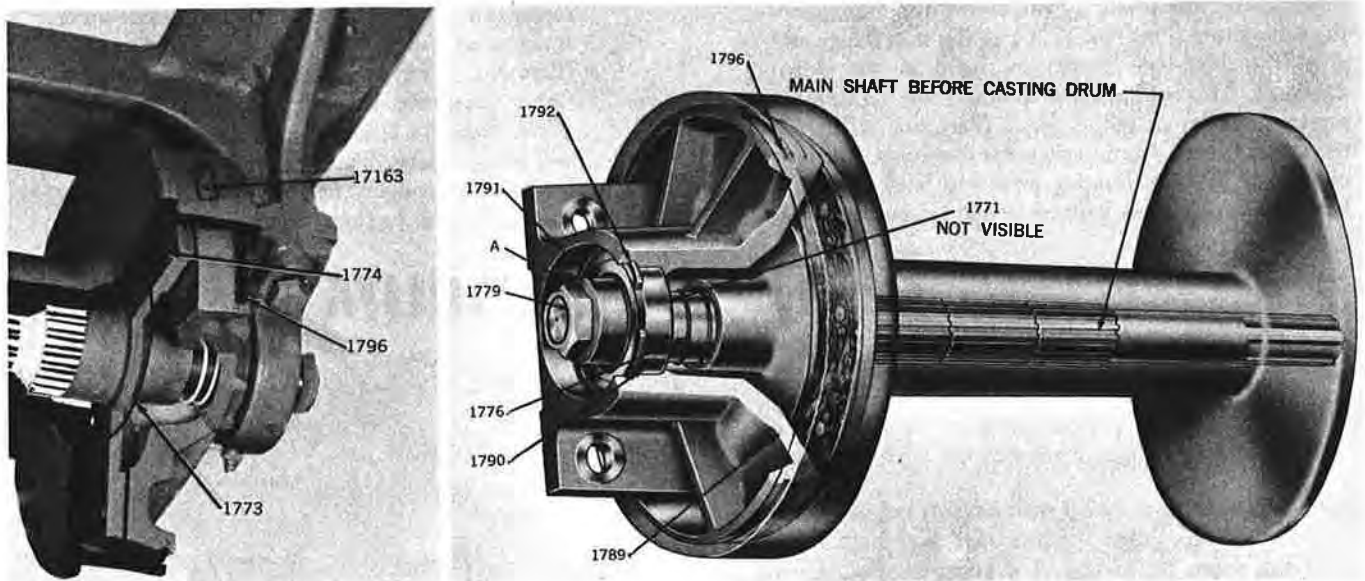
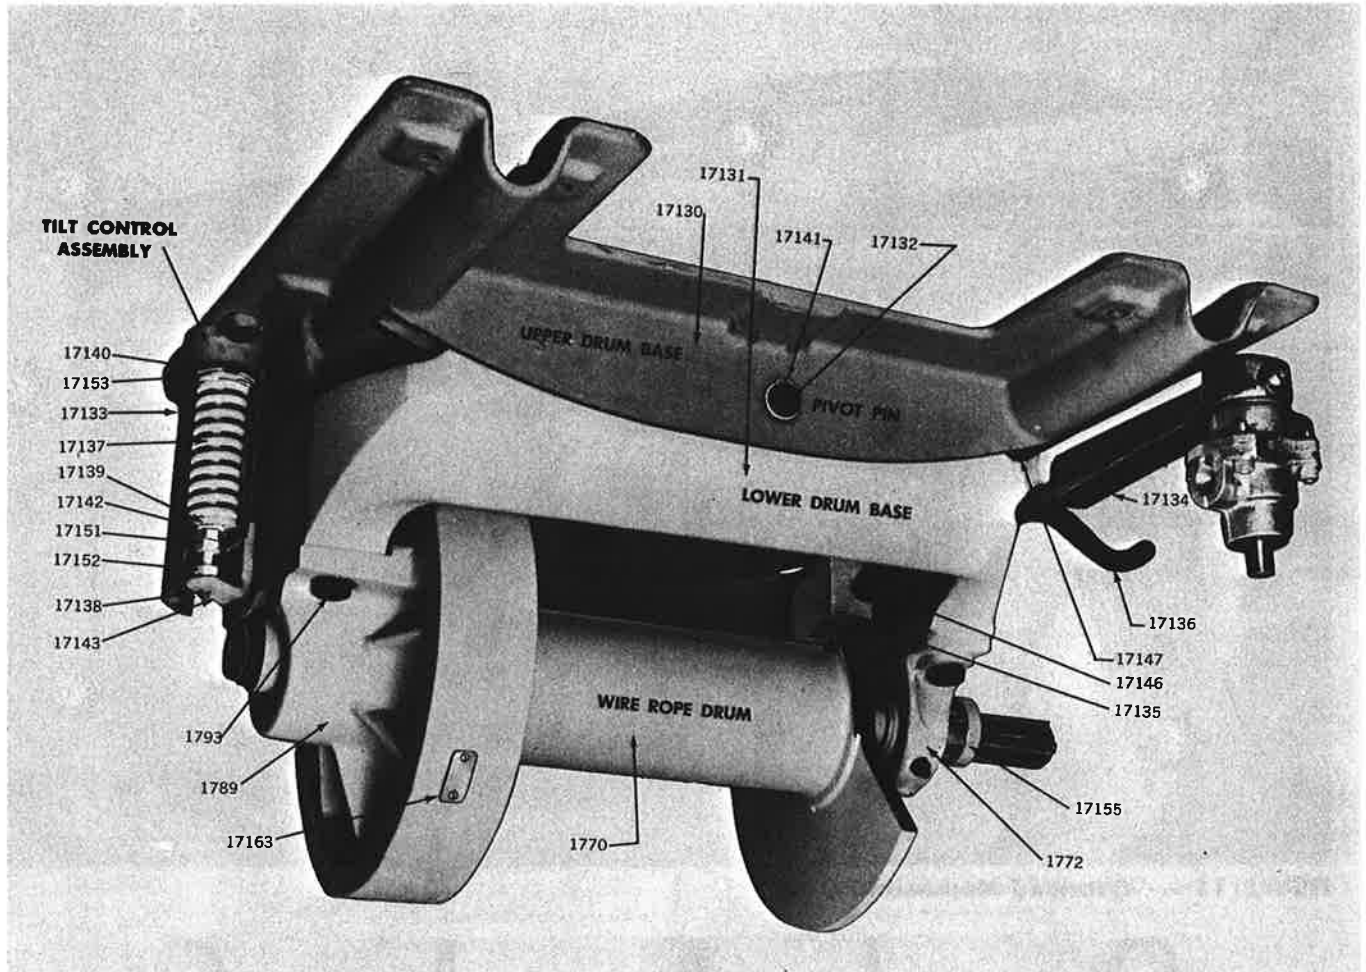

FIGURE 9 — Automatic Emergency Brake
FIGURE 10 — Level Wind Drum and Drum Base Assembly
(Figures 9, 10)
1. Remove the 4 cap screws, (Part No. 1793), Fig. 10, and remove the drum from the base.
(Figures 9 and 10)
(Figure 10)
(Figures 10 and 11)
Cable drum bearings, (Part No. 1772 Figure 10 and Part No. 1790 Figure 9). Sealed and lubricated for life.
Pivot Pins, (Part No. 17132), Tilt Control Assembly Figure 10. P/B Pivot Pin, (Part No. 17178M), Model ST-17-1 only.